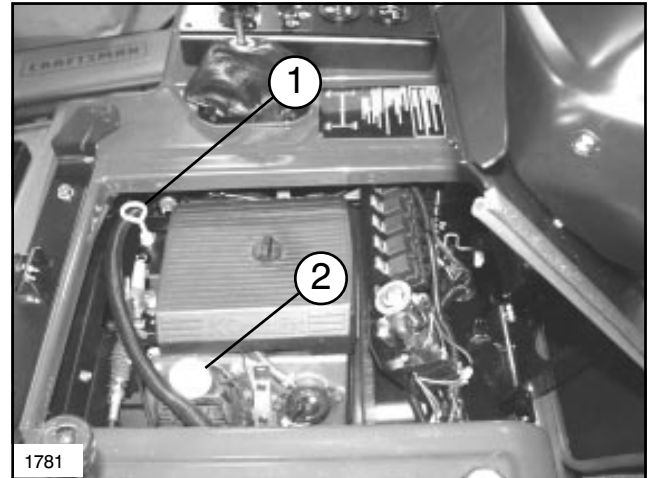

FIG. 1
1. Position vehicle on a level surface. Set Parking Brake. Tilt seat forward to gain access to the engine compartment. (See FIG. 1)